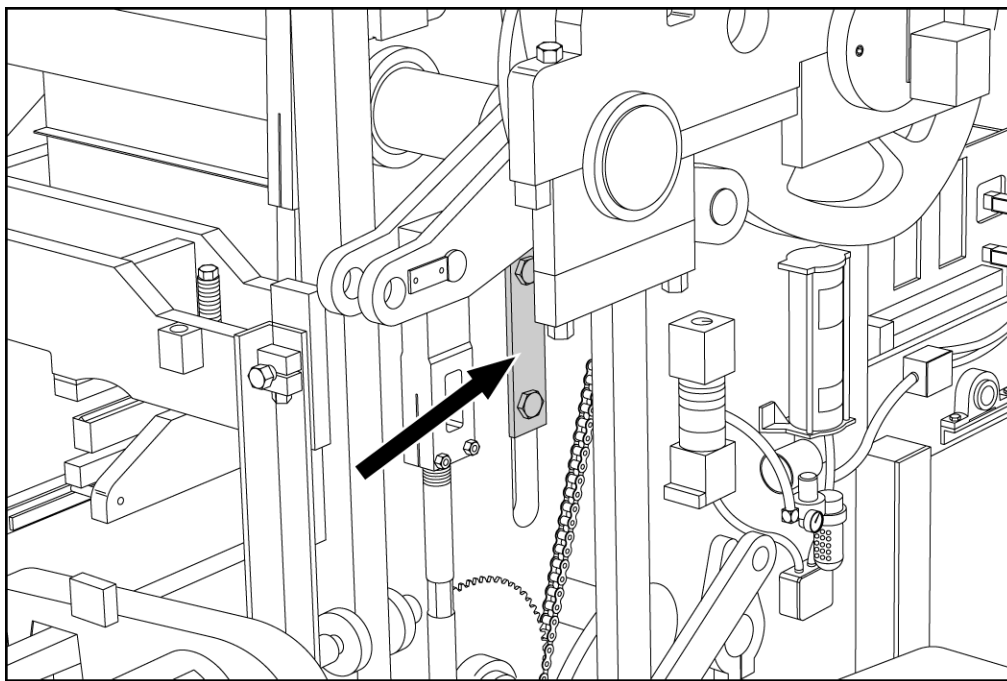

Figure 4.10 TIGHTEN "T" CLAMPS ON BOTH SIDES
- f. Tighten "T" clamps on each side of machine that secures machine side plate to mold throat plate. See figure 4.10 below.